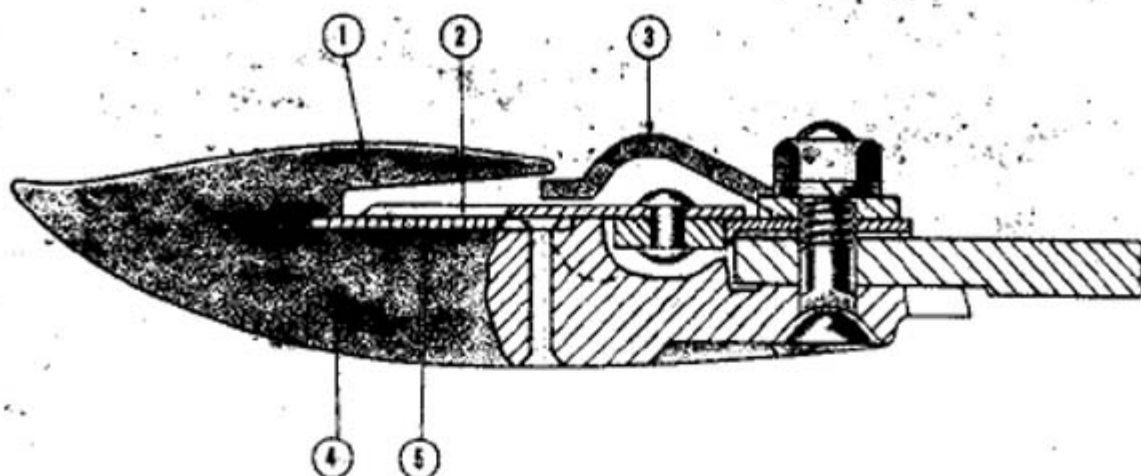

Figure 8
**Knife Guards:** Align the guards (4), Figure 8, by striking the forward end up or down with a hammer until the ledger plates (5) align with each other and with the plates on inner and outer shoe. The knife guard lip (1) should be above the knife clip (3) and kept straight as shown in Figure 8.
**Knife Clips:** The knife clips (3), Figure 8, should hold the knife sections down on the ledger plates (5) without binding the knife section. Adjust by removing the knife and striking the forward end of the clip up or down.